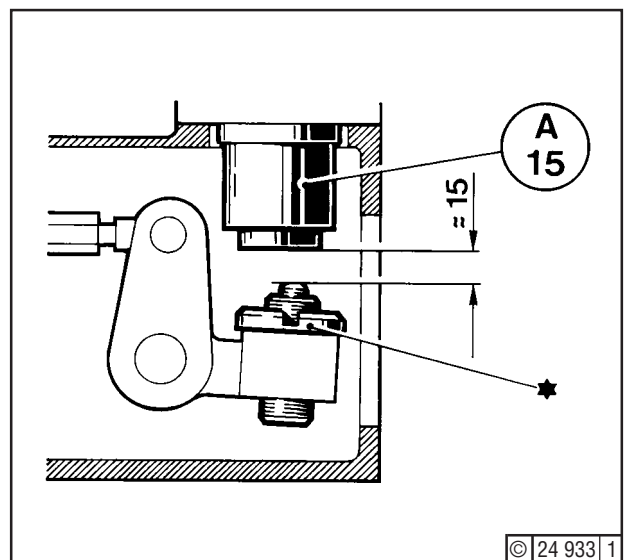

Fig. 11
8. Refit the tools (see under 5.) , then check whether, at operating position of the spring-loaded cylinder A15 (Fig. 11) and contact of the control rods at the check stops (points A18 A19 and A20), there is a clearance of approx. 15 mm.